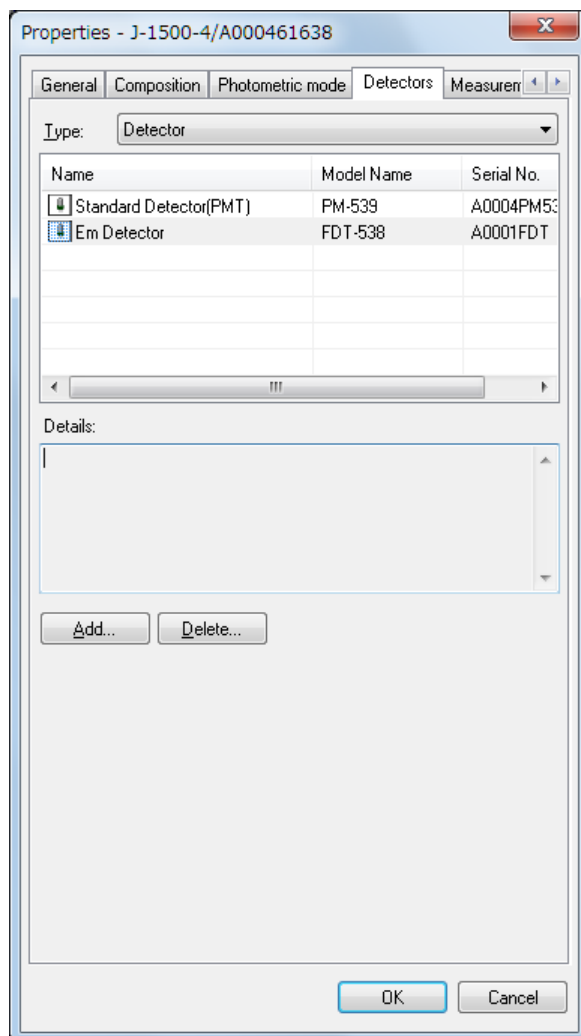

Figure 3.7 [Detectors] tab in [Properties] dialog box
- (1) Click the [Detectors] tab in Fig. 3.7. Select the type of detector from the [Type] drop-down list.